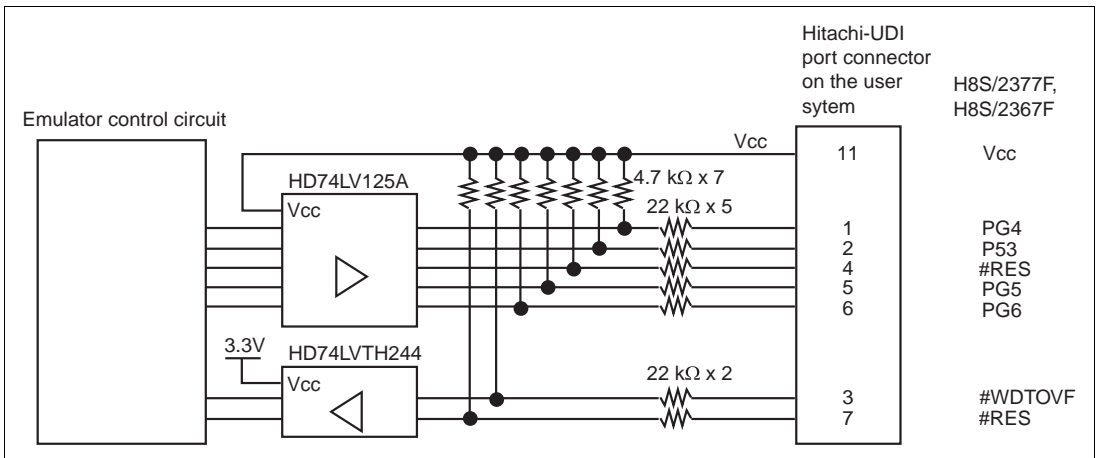

Figure 6.6 Interface Circuit in the Emulator (Reference Figure)
- Figure 6.6 shows the interface circuit in the emulator. Use this figure as a reference when determining the pull-up resistance value.